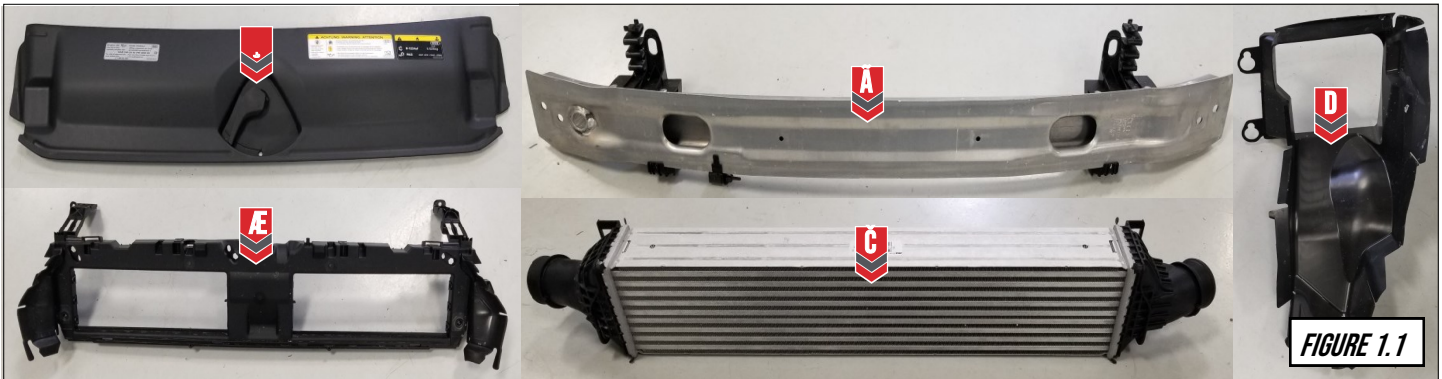

FIGURE 1.1
Remove the front bumper, front shroud (A), aluminum bumper support (B), plastic front retainer (C), stock intercooler (D), and driver side duct (E). These parts are shown in **Figure 1.1**.